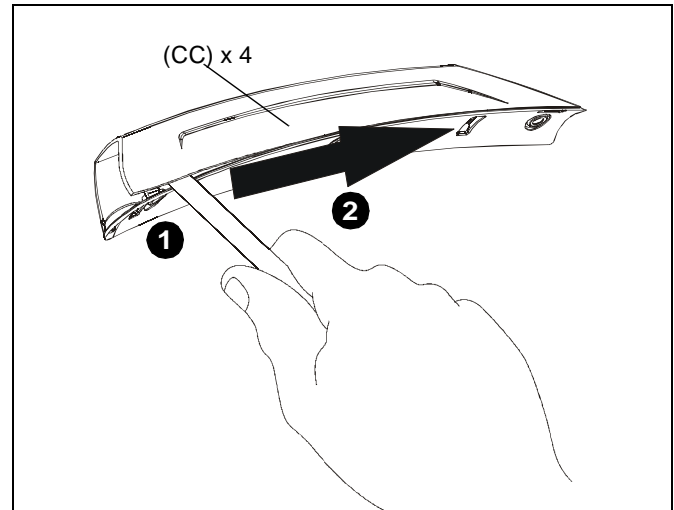

Figure 12
1. Use screwdriver to unhinge tab on either end of a cable management cover (CC). (See Figure 12)
2. Slide screwdriver along edge of cover until remaining tabs are unhinged and cover is in the "open" position. (See Figure 12)
3. Repeat Steps 1-2 for the other three covers (CC) so that all four covers are in the "open" position.